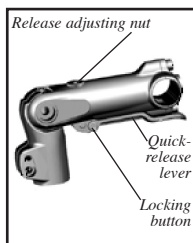

Figure 14- Bontrager adjustable-rise stem
1. Pull out the locking button (Figure 14).
2. Pull the quick-release lever (Figure 14) down.
2. Turn the release adjusting nut (Figure 14).